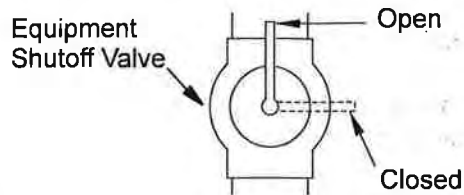

Figure 10 - Equipment Shutoff Valve
1. Close equipment shutoff valve (see Figure 10).
1. Open equipment shutoff valve (see Figure 10).